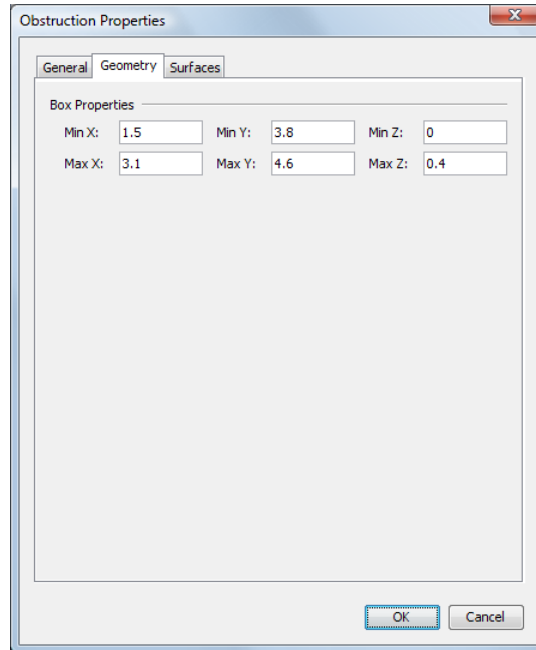

Figure 6.6. Input for the couch base
4. Click on the **Geometry** tab. In the **Box Properties** boxes, enter the values in Table 6.1, see Figure 6.6.